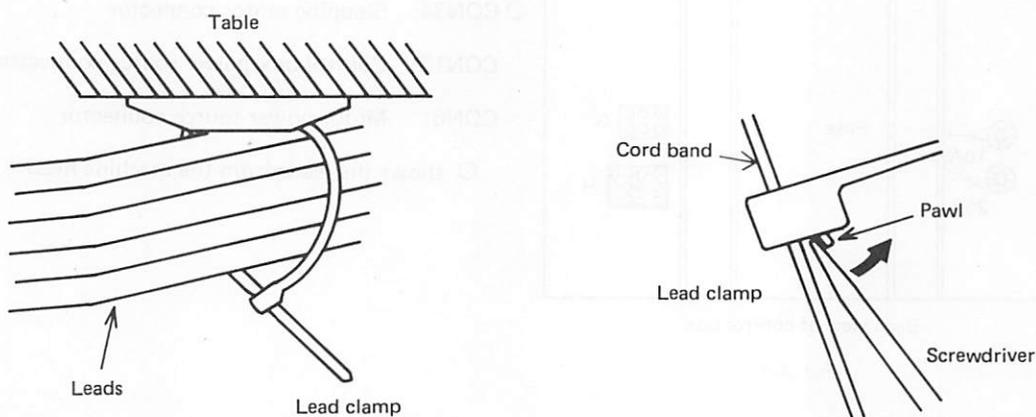

Fig. 3.3
- (2) Secure the leads in position with lead clamp so that they cannot come into contact with the belt. The cord band of lead clamp can be released by levering it with screwdriver as shown in Fig. 3.3.